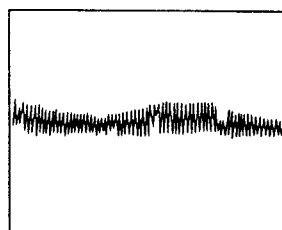
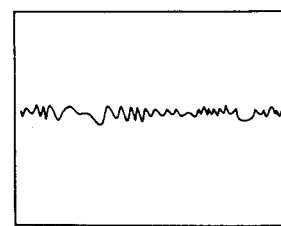

Fig.1 Null Point
Fig.2 This is not the null point.
5. Slide the tip of a small screwdriver through the guide and insert it horizontally into the grating adjustment slit. Adjust grating angle so that the waveform becomes small a its envelope is smooth. (This point is called null point.) (See Fig. 1 and Fig. 2.)